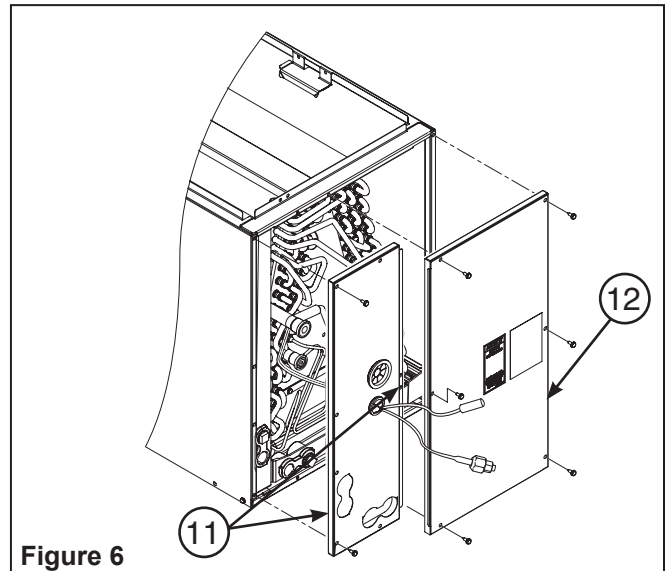

Figure 6
11. Carefully pull the equalizer and sensing bulb lines through the liquid line opening. Ensure these lines do not cover the right-center screw hole on the line set panel to prevent screws from puncturing lines during coil panel installation (Figure 6).
12. Verify that all distributor tubes are positioned within the drain pan perimeter to ensure distributor tubing condensate is collected, then install the coil panel on the cabinet (Figure 6).